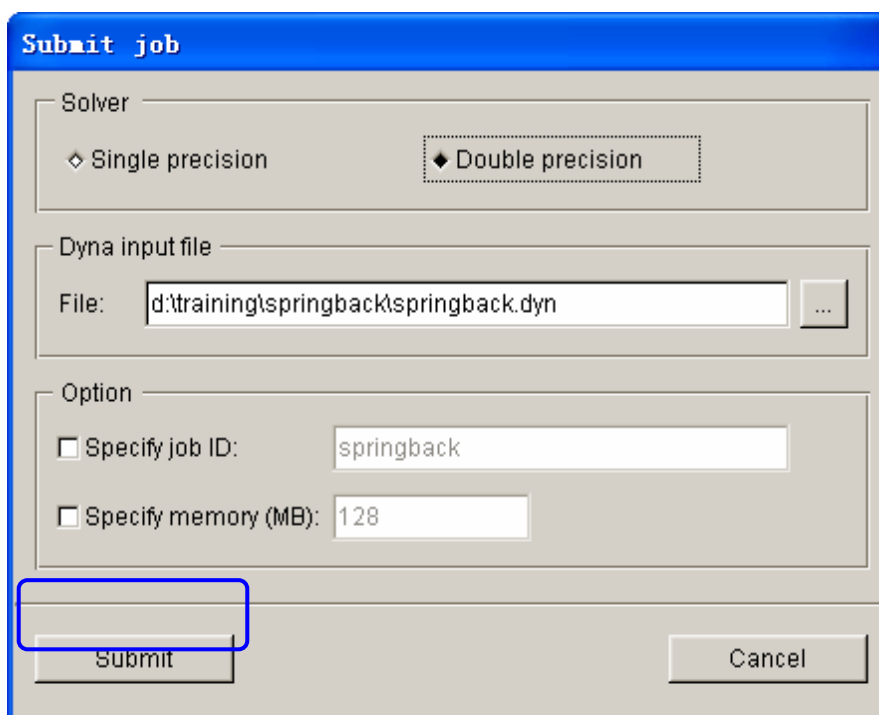

Figure 6.13 Submit job dialog box
2. The SUBMIT JOB dialog box illustrated in Figure 6.13.